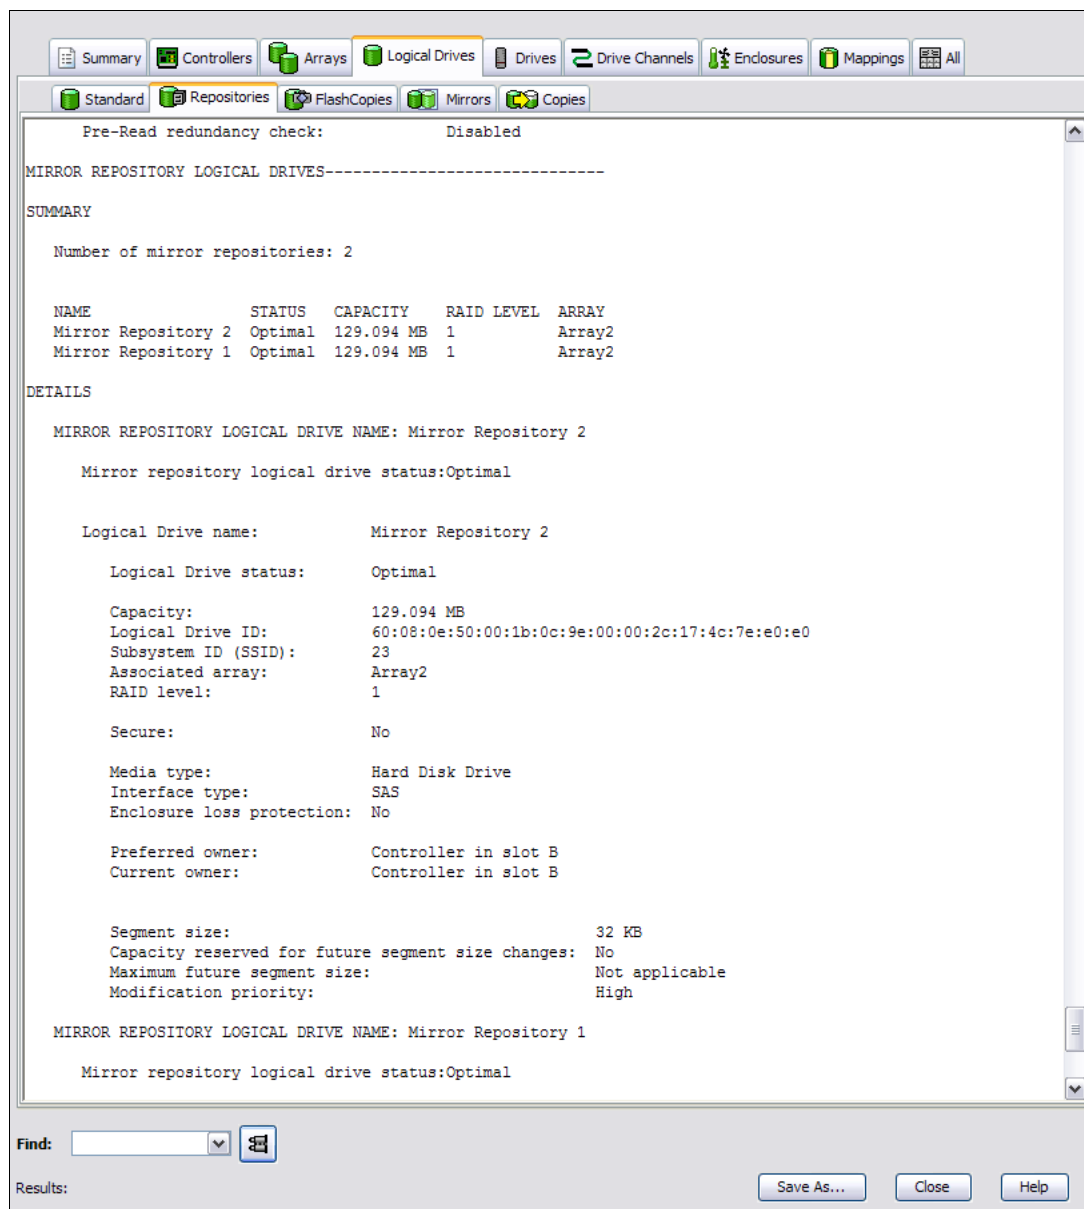

Figure 5-28 Storage Subsystem Profile: Repositories tab
- Repositories: This tab contains a section of logical drive information that shows FlashCopy and mirror repository logical drive properties. See Figure 5-28.